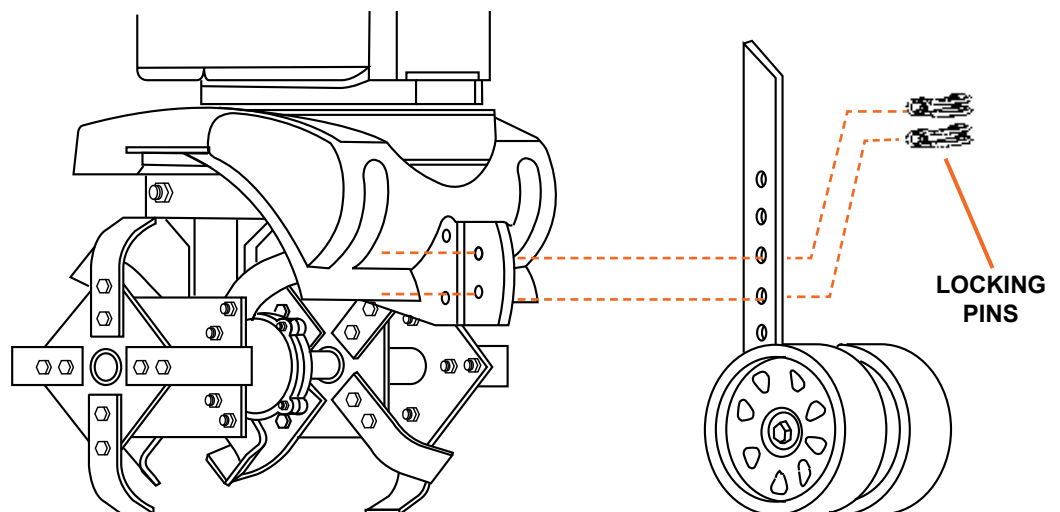

Figure 2
2. Push two locking pins through the holes and secure (see Figure 2).